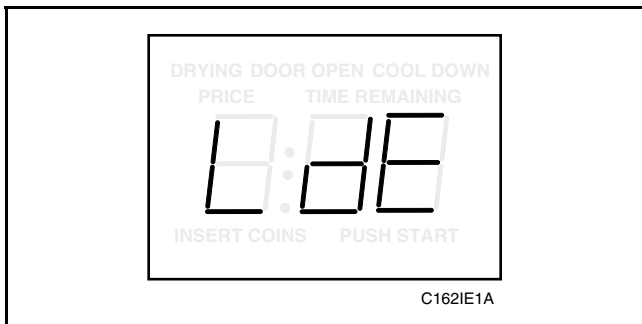

Figure 56
- Press the LOW TEMP (+) pad or the NO HEAT (-) pad to scroll through the programmable options until “LdE” appears in the VFD, *Figure 56*.